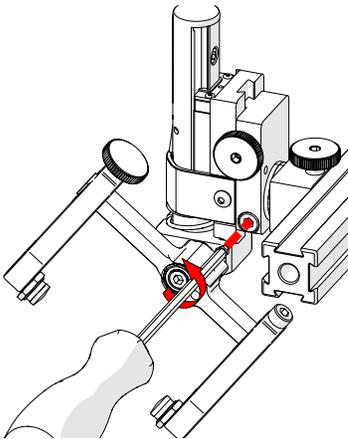

Fig. 87 - Loosen 3 mm screw
2. Using the supplied 3 mm hex driver (Fig. 18), loosen the longitudinal adjustment screw (Fig. 87).